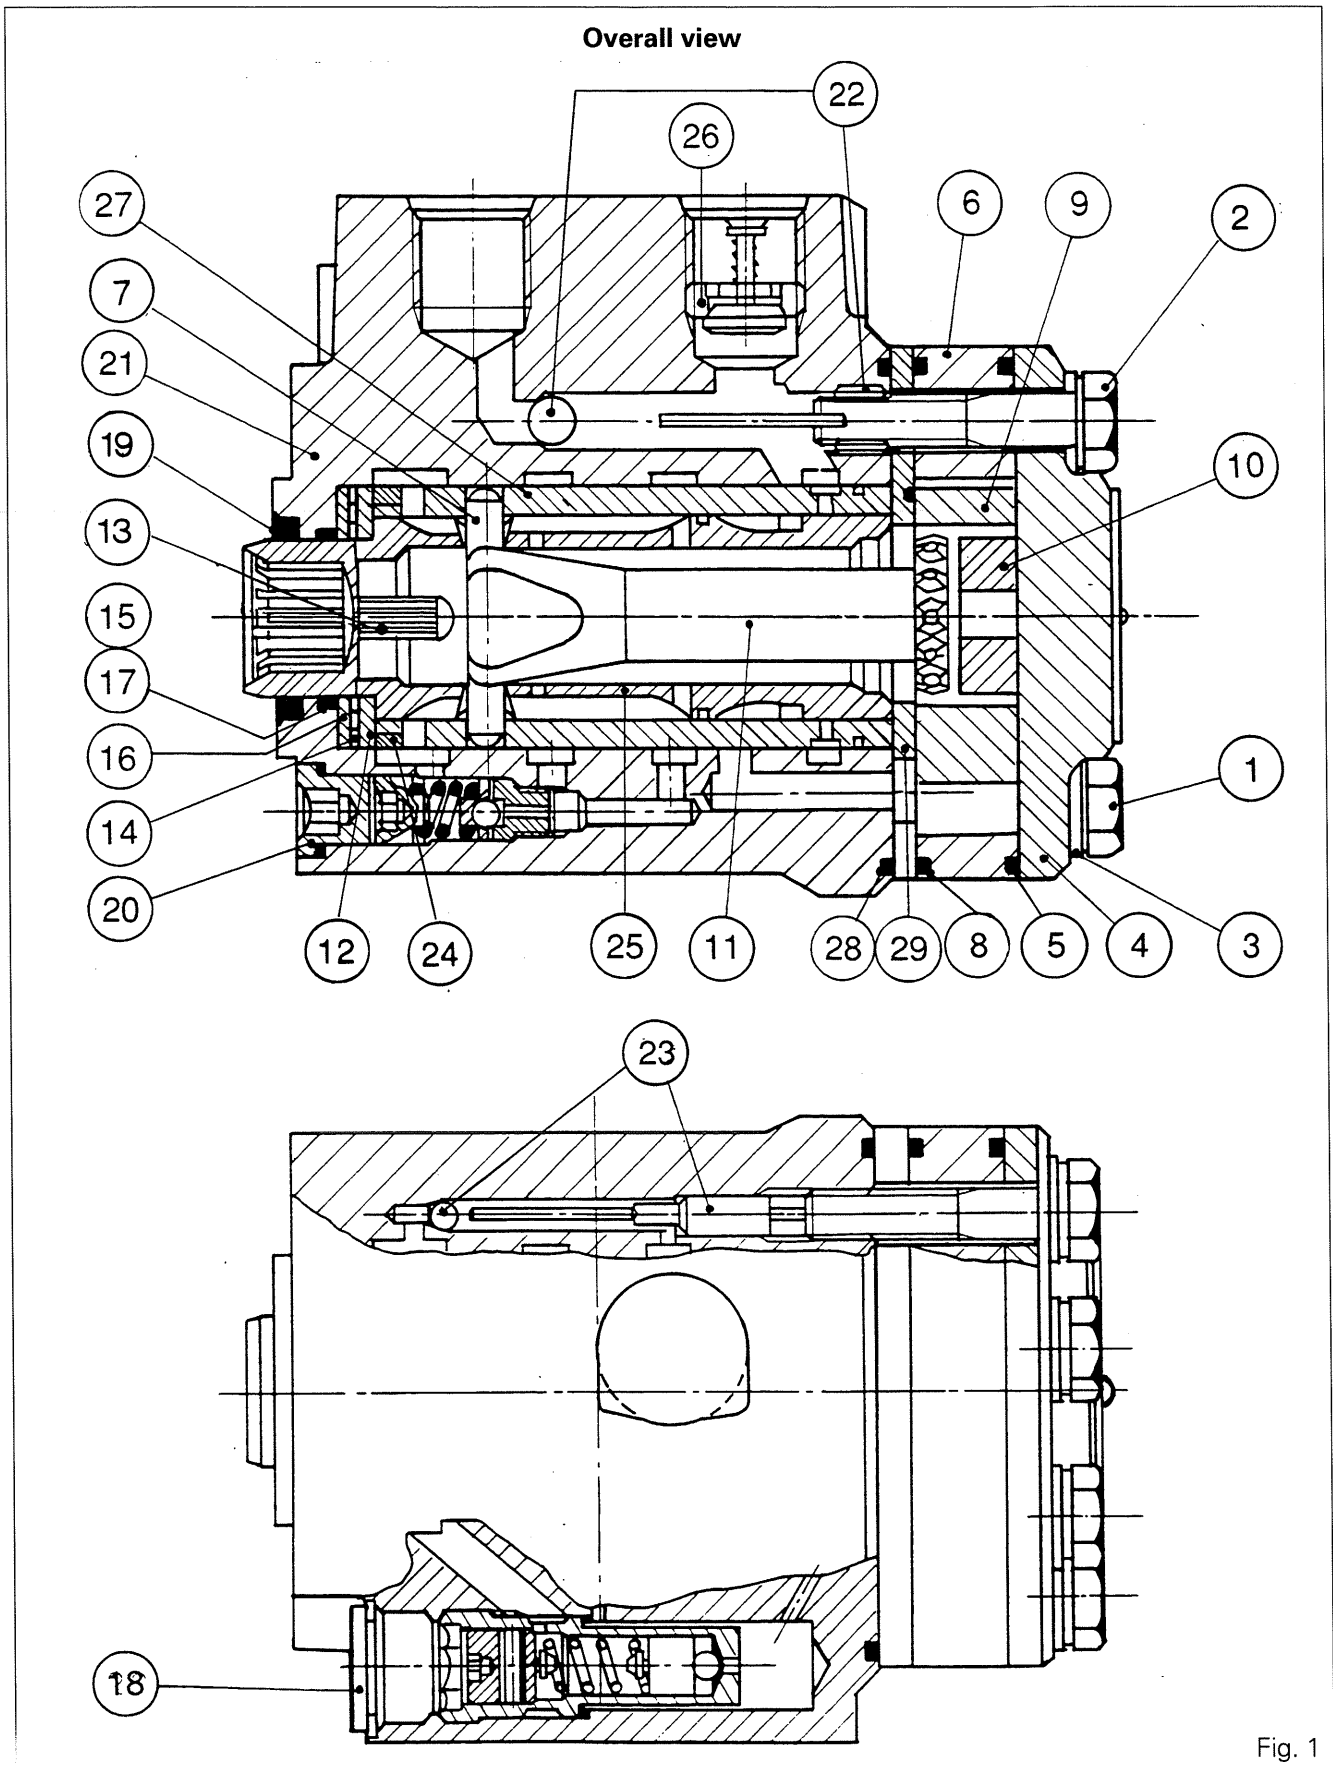

Fig. 1
**Hydraulics - Closed centre****E. Disassembling and reassembling the distribution valve (Orbitrol) (Fig. 1)****Disassembly**
3. Remove bolts (1). Mark the position of bolt (2) and remove it.
4. Remove the cover plate (4), O-ring (5), the stator (6) and O-ring (8).
5. Remove the spacer (10), rotor (9), distributor plate (29) and O-ring (28).
6. Withdraw the splined link shaft (11).
7. Unscrew the threaded bush and recover the ball from the non-return valve (22).
8. Withdraw the two pins and the two balls from the suction valves (23) of the distribution valve.
9. Extract the sleeve (27) and spool valve (25) assembly by pushing it, making sure that the pin (7) is horizontal.
10. Remove the washers (12) and (16), the needle-roller bearing (14) and the ring (24) from the sleeve/spool valve assembly. Remove the pin (7) and the centring springs (13) by pressing on one of their ends. Separate the sleeve (27) from the spool valve (25).